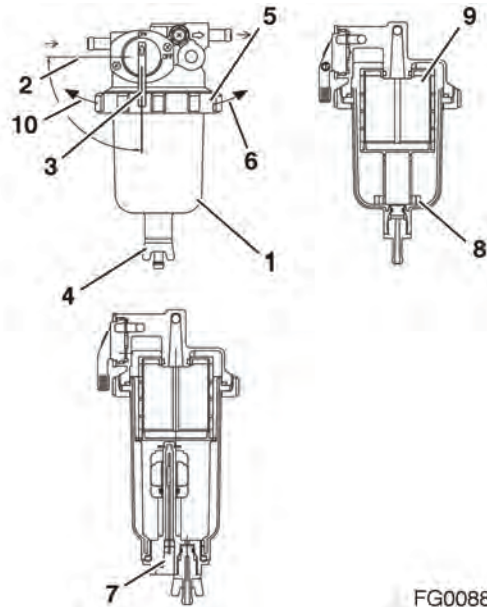

Figure 103
1. Position an approved container under the cup (1, Figure 103) of the fuel filter / water separator to collect the contaminants.
2. Close (2, Figure 103) the fuel cock (3, Figure 103).
3. Loosen the drain cock (4, Figure 103) and drain the contaminants. See "Drain Fuel Filter / Water Separator" on page -73.
4. Turn the retaining ring (5, Figure 103) to the left (10, Figure 103) and remove the cup (6, Figure 103). If equipped, disconnect the sensor wire (7, Figure 103) from the cup before removing the cup.
6. Remove the float ring (8, Figure 103) from the cup. Pour the contaminants into the container and dispose of it properly.
7. Clean the element (9, Figure 103) and inside cup. Replace the element if it is damaged.
11. Install the cup to the bracket by tightening the retaining ring to the right (6, Figure 103) to a torque of 11 -15 ft•lb (15 -20 N•m; 1.5 -2.0 kg•m).
13. Open the fuel cock (3, Figure 103).